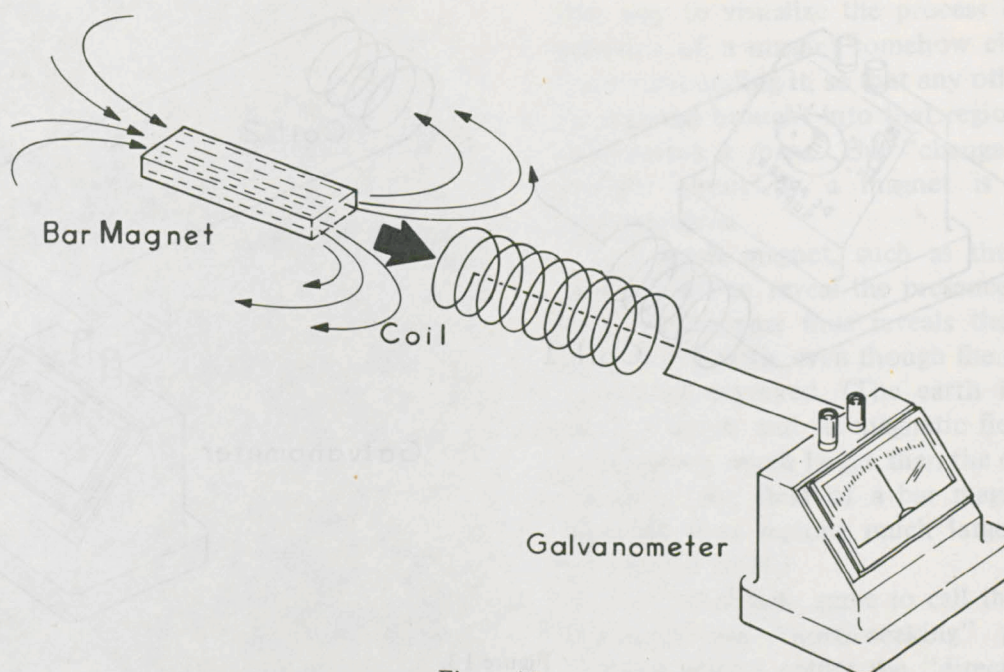

Figure 12.
8. The arrangement for this investigation is shown in Figure 12. The *galvanometer* is a device which indicates an electric current and the direction of that current. Place the bar magnet inside the coil. When the magnet is stationary, what is the current reading through the galvanometer?